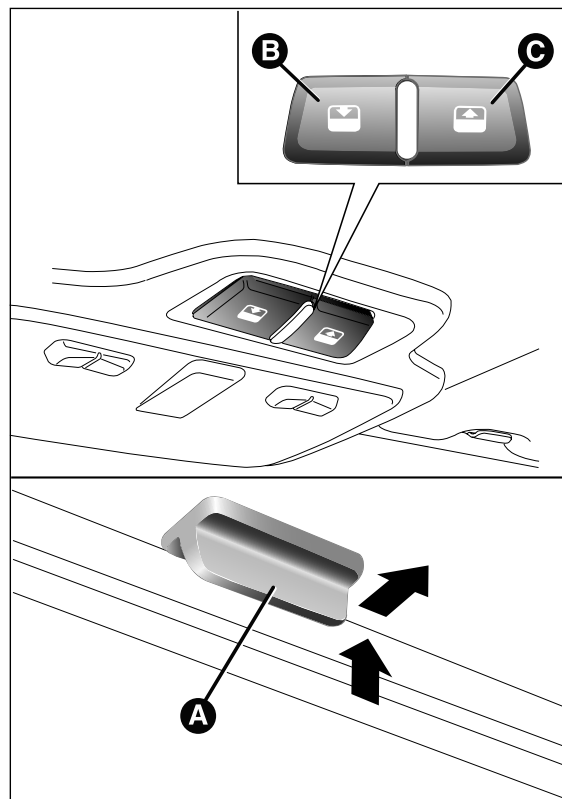

fig. 44
The large electric sun roof comprises two glass panels; the front one is mobile and the rear one fixed. These are equipped with two sun blinds (front and rear) that can be moved manually. With the sun roof closed, the blinds can be placed in any position. To open the blinds, grip handle A fig. 44, following the direction indicated by the arrow until the desired position is reached. To close them, carry out the procedure in reverse.
The sun roof can be operated only with the ignition key turned to MAR. The controls B and C fig. 44 on the front roof light trim operate the roof opening/closing functions.
Press button B from the fully open position fig. 44. If the button is pressed for more than half a second, the roof will automatically move to spoiler position.
From the spoiler position, press button B fig. 44 again to reach the fully closed position.
- ☐ press button B fig. 44 in closing position;